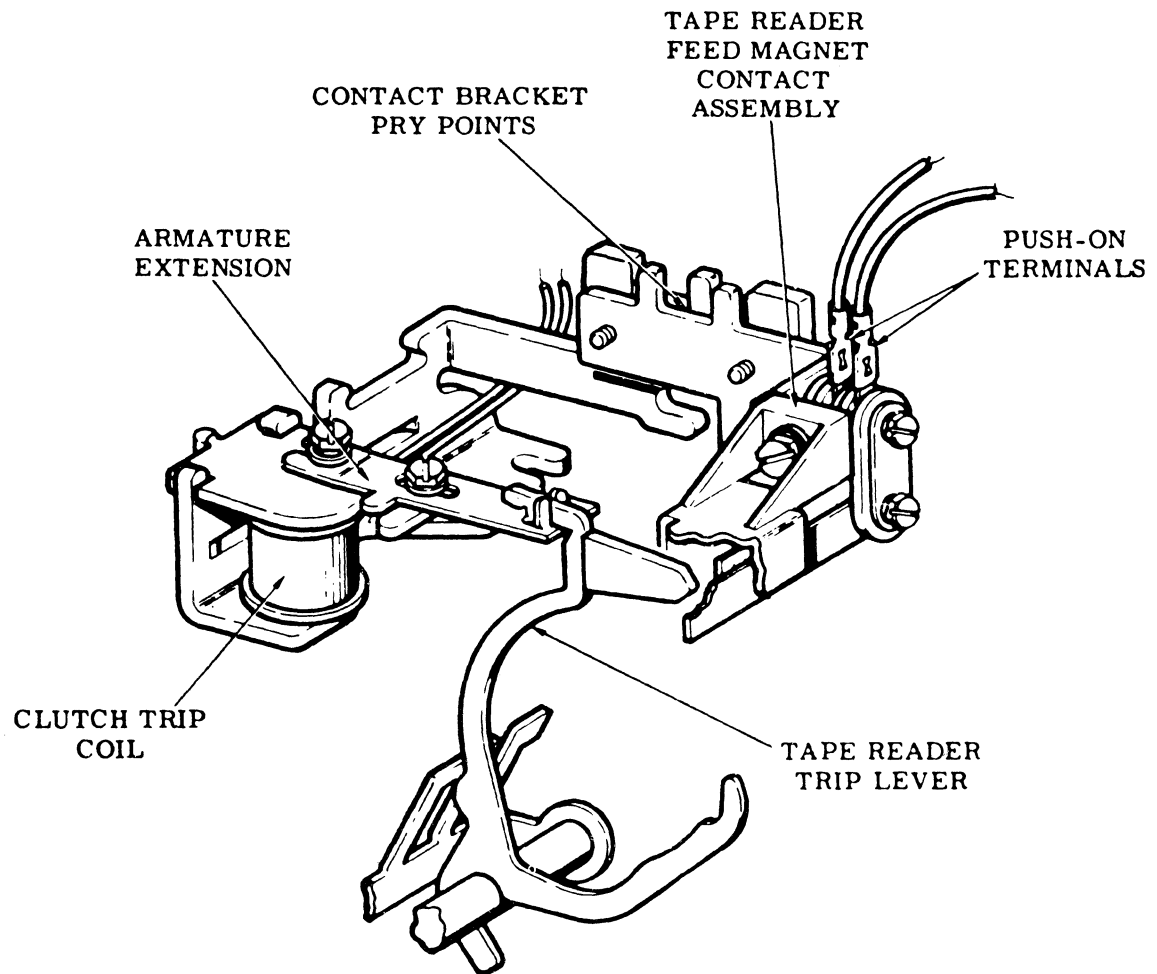

Figure 3 - Clutch Trip Magnet Assembly
2.04 To remove the tape reader feed magnet contact (Figure 3), proceed as follows.
- 2.05 To remove tape reader clutch trip magnet assembly (Figure 3), proceed as follows.